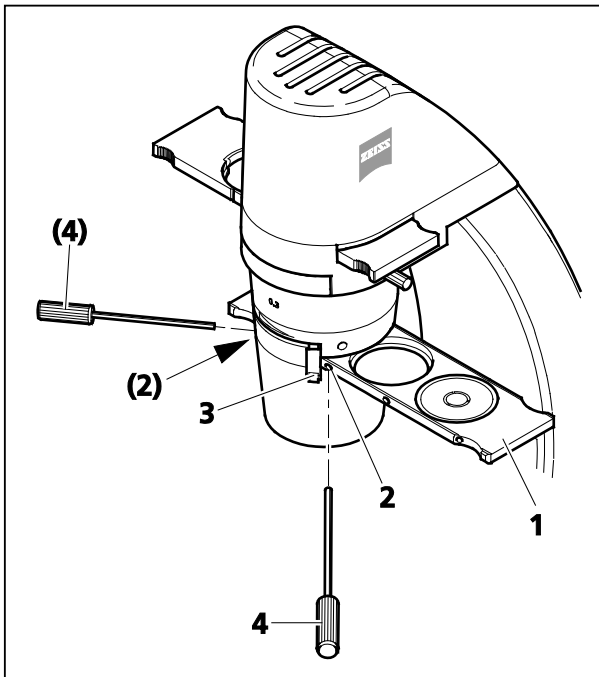
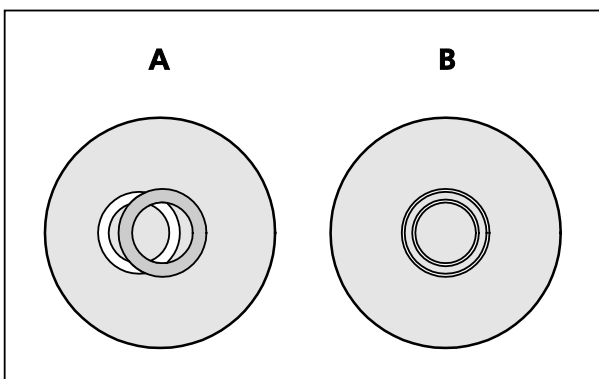

Fig. 17 Inserting the slider
Fig. 18 Centering the phase stop
- Open the aperture diaphragm completely by means of the lever (Fig. 17/3) on the condenser.
- Introduce the slider (Fig. 17/1) into the condenser so that the phase stop position suitable for the objective used (Ph 0, Ph 1 or Ph 2) is in the light path. Pay attention to the correct detent position.
- Check the centering of the phase stop according to the drawing in Fig. 18. To this end, remove one eyepiece and replace it by the diopter.
- Center the phase stop, if necessary (Fig. 18/A), by turning the two adjusting screws (Fig. 17/2) of the corresponding slider position by means of the two Allen keys SW 1.5 (Fig. 17/4) until the image corresponds to that shown in Fig. 18/B.